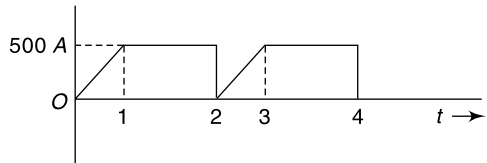

Fig. 5.7 Waveform of Ex. 5.8
5.8 Find the average and rms of the wave form shown in Fig. 5.7.